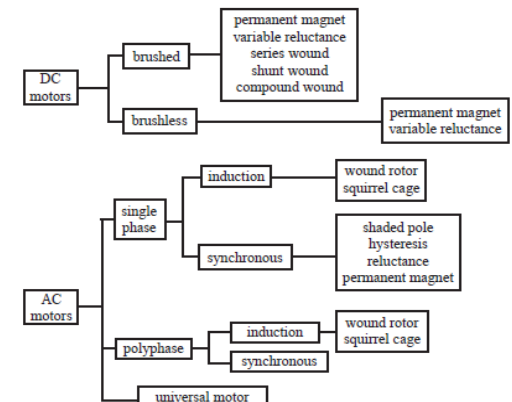

Figure 3.2 Configuration classification of electric motors.
- Figure 3.2 provides a configuration classification of electrical motors found in mechatronics applications.